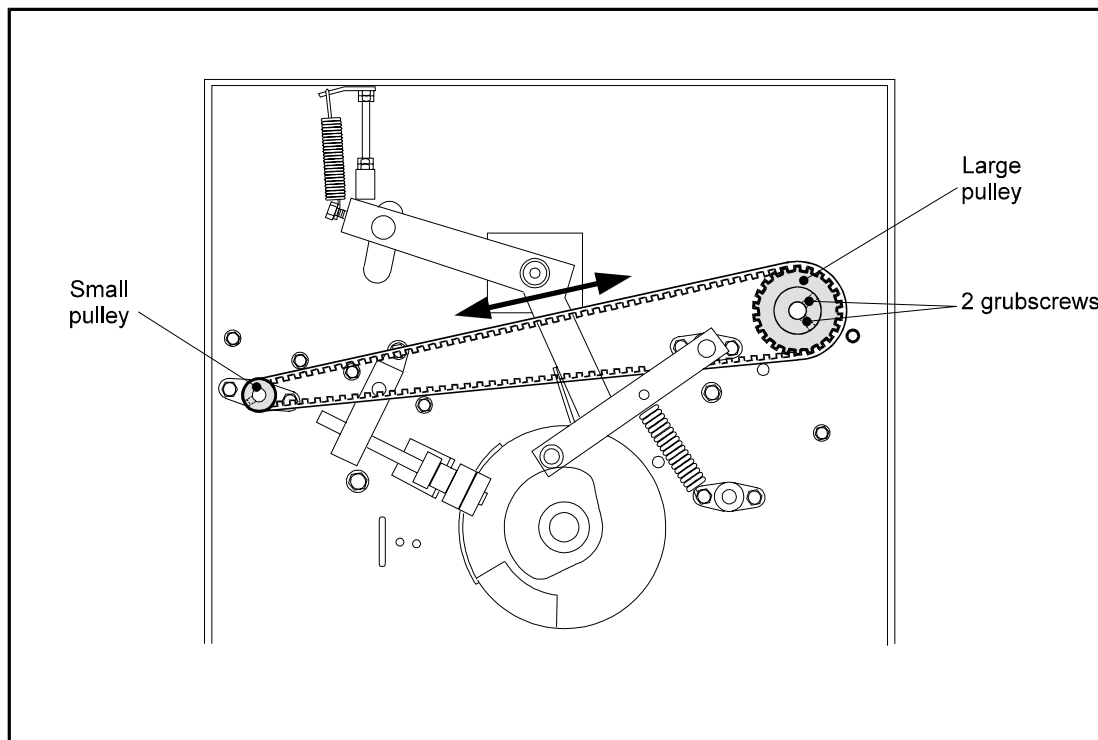

Figure 5.3 - Re-setting the fold indicator.
8. Replace the staples and run sheets through the machine. If the staples are not on the fold slacken the two grub screws securing the larger aluminium pulley, figure 5.3, and turn the small pulley using the belt until the indicator is lined up with the 'A4' (8½" x 11") mark on the scale.